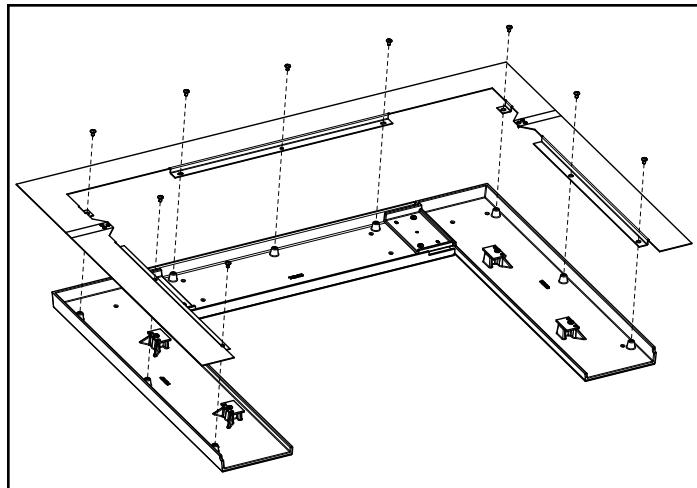

Figure 22.3
1. Align holes from Surround Extension Assembly as shown in **Figure 22.3**.
2. Using a Phillips Head screwdriver and nine (9) 1/4-20x3/8 Phillips head screws; secure Panel Extension Assembly to Cast Surround Assembly.